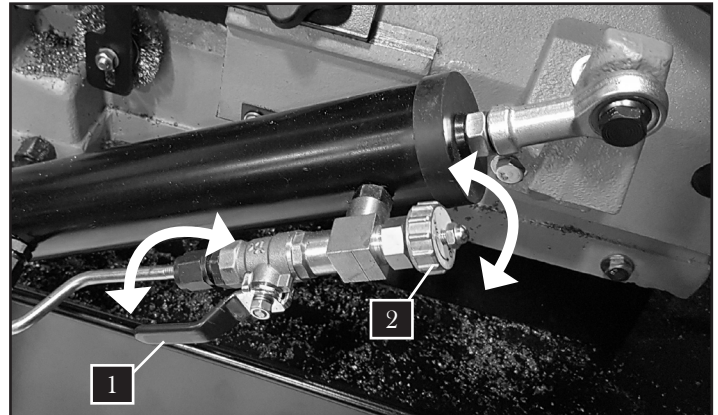

Fig. 8
The hydraulic system is used to control the blade's feed rate and to lock the saw arm in the raised position. The hydraulic lever (Fig. 8 - 1) controls whether the cylinder is ON or OFF. The adjustment knob (Fig. 8 - 2) controls the how fast the saw arm comes down.
1. To turn OFF the flow of hydraulic fluid, turn the hydraulic lever (Fig. 8 - 1) clockwise (pointing upwards, perpendicular to the cylinder axis). This will lock the saw arm in the raised position.
2. To turn ON the flow of hydraulic fluid, turn the hydraulic lever (Fig. 8 - 1) counterclockwise. This will allow the saw arm to come down from the raised position.
3. To DECREASE the feed rate, turn the adjustment knob (Fig. 8 - 2) clockwise (towards SLOW).
To INCREASE the feed rate, turn the adjustment knob (Fig. 8 - 2) counterclockwise (towards FAST).